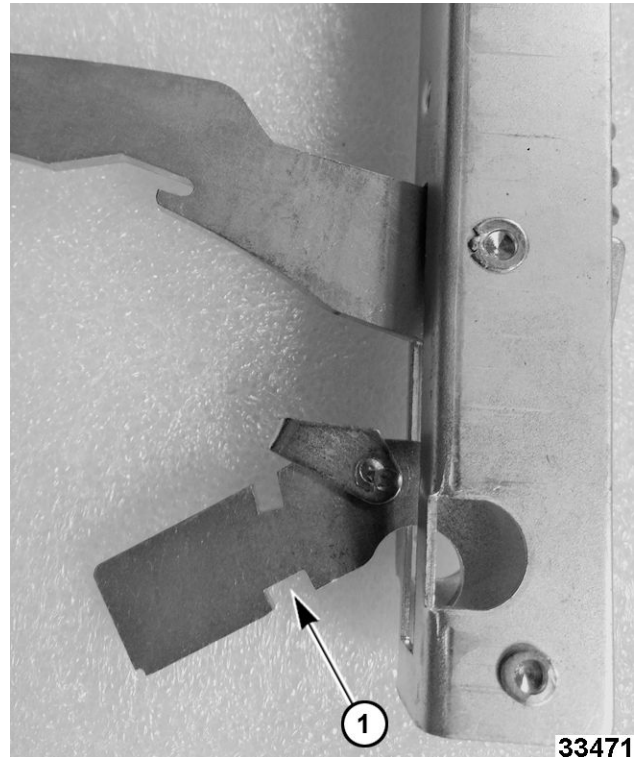

Fig. 32
3. Lift up on door, while holding both sides, to disengage locking lever notch (1, Fig. 32) on both sides.